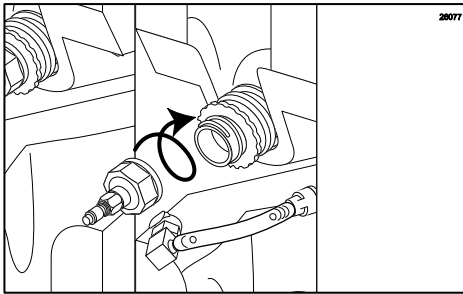

Figure 70
23. Connect each Syrup Bag Adapter to the syrup bag fitments. (See Figure 70.)